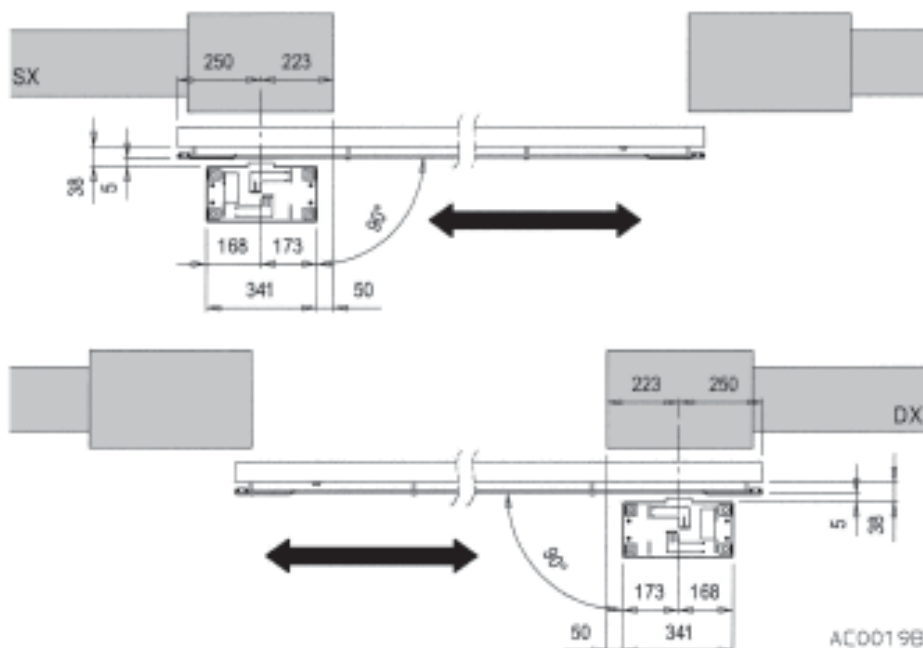
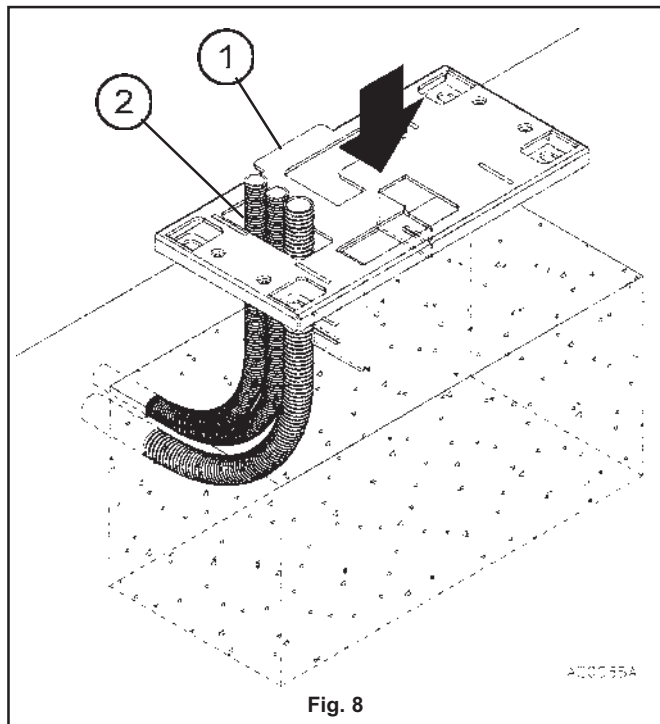

Fig. 4
Fig. 8
- For the installation of the operator base plate, observe the distances given in fig. 4.
- c) Make a foundation large enough to contain the concrete base for the operator's base plate, referring to the distances given in figs. 4 and 5.
g) As soon as the concrete has been poured in, position the base plate so that the tab (1 fig. 8) faces towards the gate, then immerge the L-shaped anchors into the concrete, threading the electric cable tubes through the hole provided (2 fig. 8).
- a1) Position the base plate on the concrete base, respecting the measurements shown in figures 4 and 5 and with the tab (1 fig. 8) facing the gate.
- a1) The base plate must be at least 99mm below the row of teeth and 5mm from the outer edge of the rack, as indicated in fig. 4 and 5, in order to allow correct introduction of the pinion below the rack.